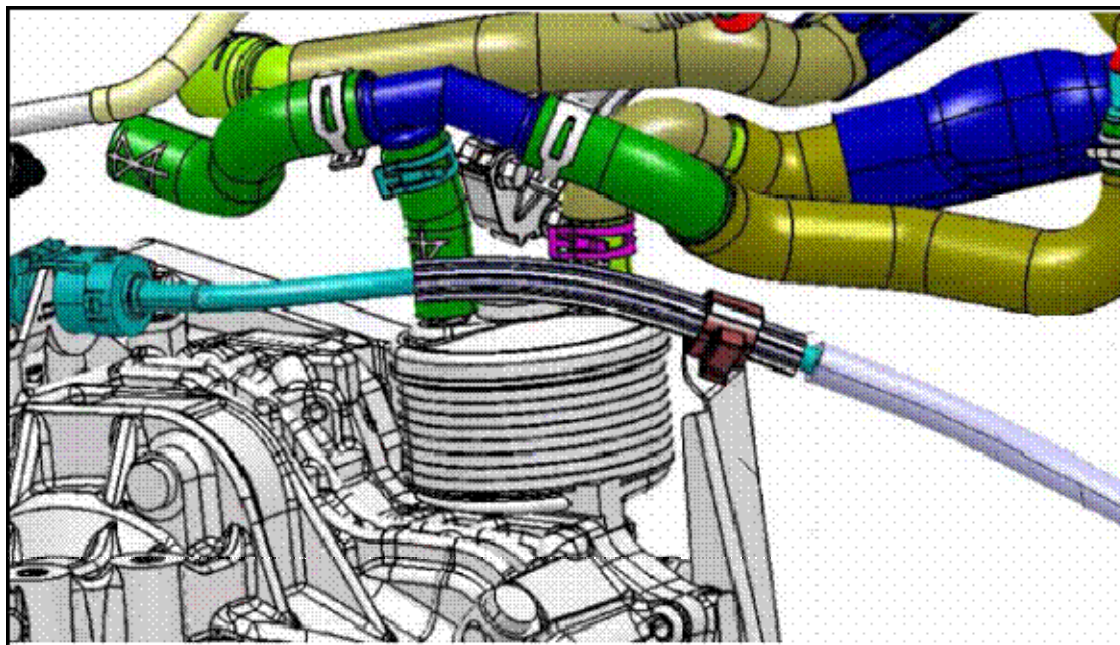

Figure 7
- Reattach shifter cable to multifunction range switch, front bracket and rear bracket, making sure star hose is securely fitted and clamped into rear bracket (Figure 7).